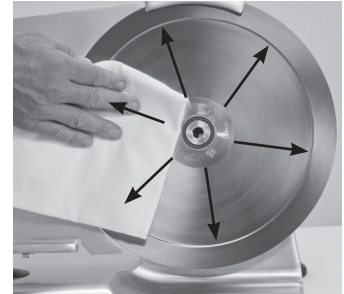

Figure 12-1
10. The knife must also be cleaned and sanitized. **Carefully** wash and rinse the top and bottom of the knife by wiping from the **center of the knife outward** (Fig. 12-1). Spray both sides of the knife, slicer table and the entire slicer base with a non-bleach, non-chlorine sanitizer following the instructions on your quaternary sanitizer container to ensure proper sanitation is achieved. Allow the slicer parts to air dry.